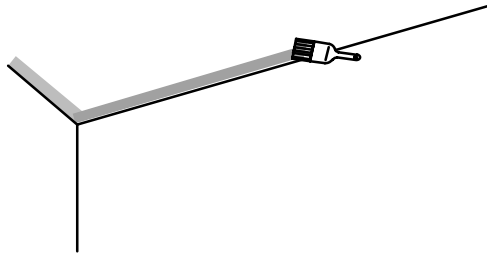

Fig. 5
1. **Ceilings:** Using a paint brush, apply a starting row of paint approximately the width of your paint brush where the walls and ceiling meet. (Fig. 5.)